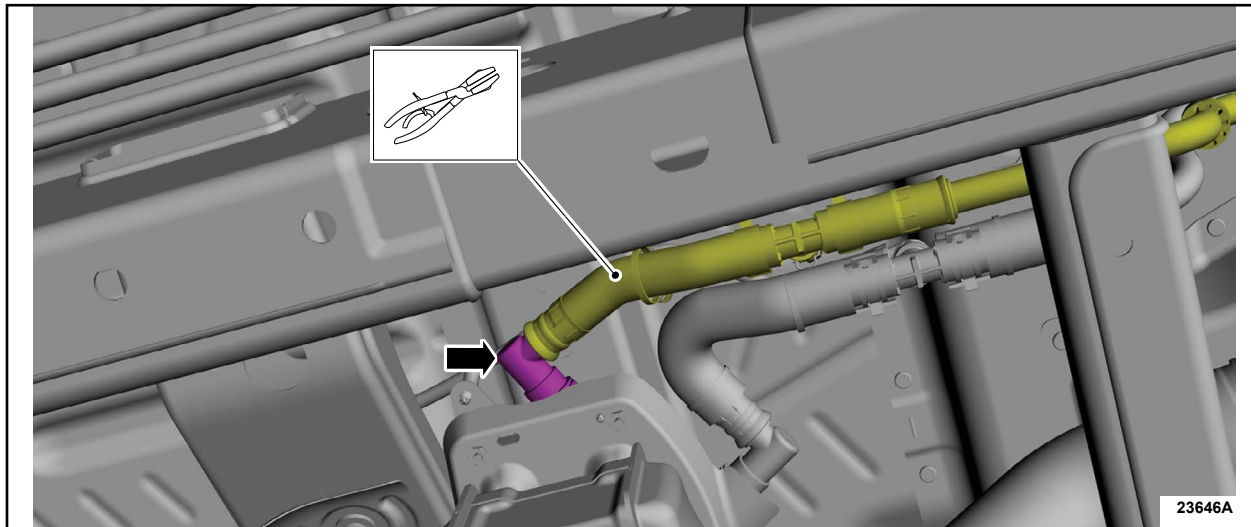

FIGURE 13
13. Unclamp the heat exchanger coolant spigots. See Figure 13.